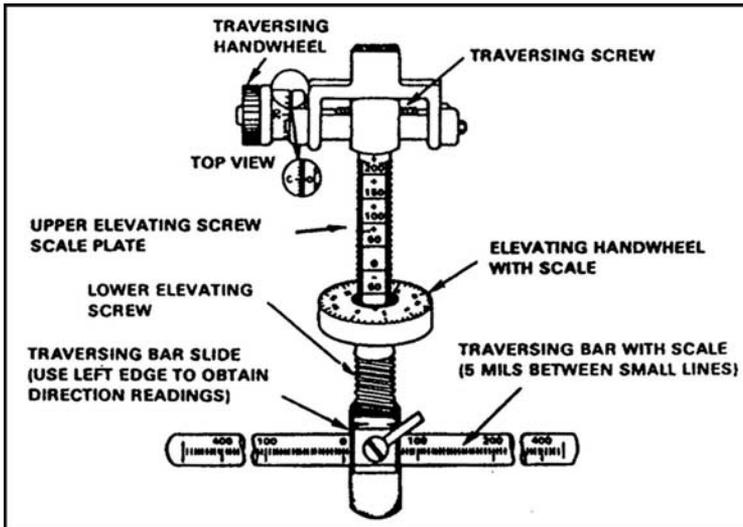

Figure 071-000-0005-4. Traversing and elevating mechanism
- (1) Label the range (in meters) from the gun to each target in the secondary sector.
- (2) Sketch aiming and elevation stakes between the gun position and the target as shown in figure 071-000-0005-2 and figure 071-000-0005-3.
5. Using the T&E mechanism, determine the direction, elevation, and range to each target. Write this information in the DATA SECTION of the range card as follows (figure 071-000-0005-2 and figure 071-000-0005-3):
- (1) Lay the gun on the base of the target.
- (2) Read the direction on the traversing bar at the left edge of the traversing bar slide (figure 071-000-0005-4).
- (3) Determine by the direction of the barrel whether the reading is right or left.
- (1) Lay the gun on the base of the target by rotating the elevating handwheel (figure 071-000-0005-4).
- (2) Read the number (including a "+" or "-" sign, unless the number is "0") above the first visible line on the elevating scale. (In figure 071-000-0005-4, this reading is "-50.")
- (3) Read, from the elevating handwheel, the number in line with the indicator. (In figure 071-000-0005-4, this reading is "3.")
6. Record the data you found using the T&E mechanism (figure 071-000-0005-4).